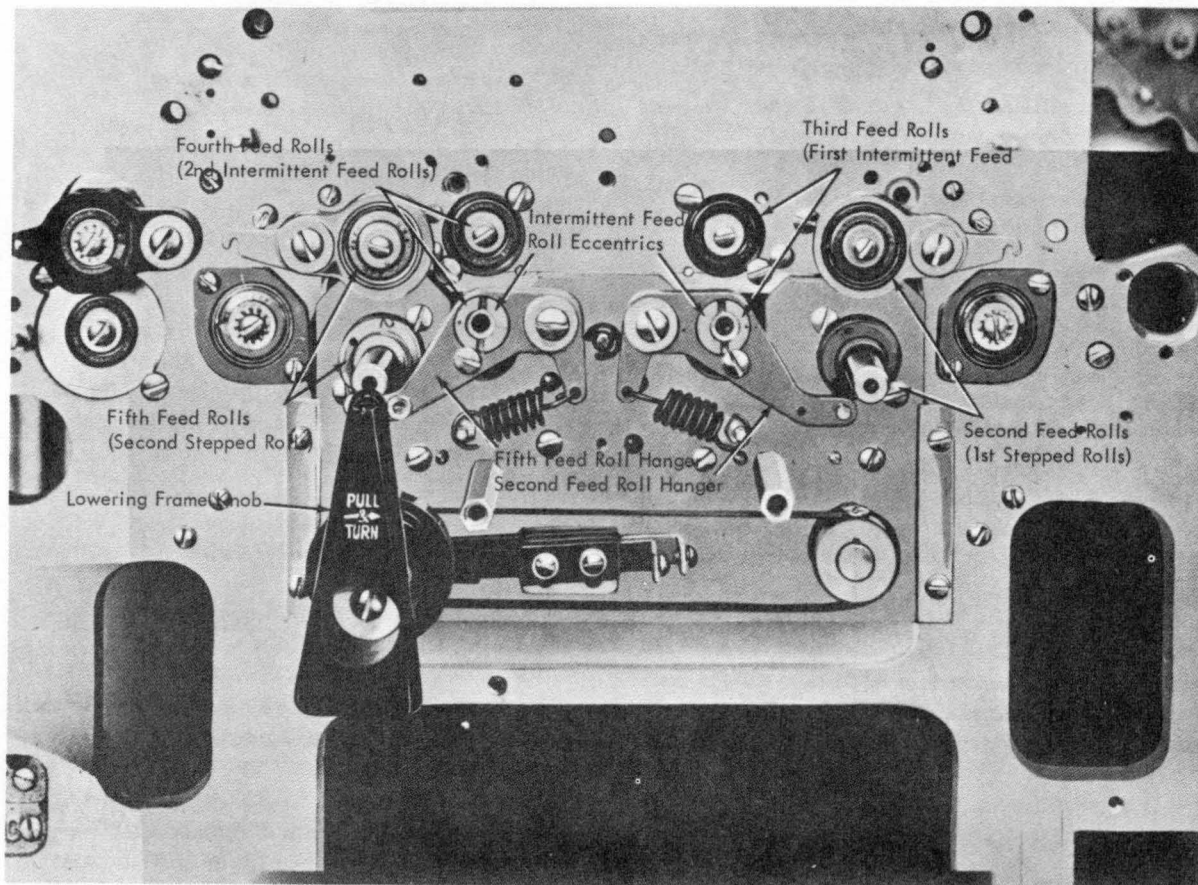

Figure 4-24. Intermittent Feed Roll Adjustments
5. Adjust the eccentrics at each end of the first intermittent feed roll shaft so that each card experiences light drag. Keep the high side of the eccentrics (indicated by the punch marks on the eccentrics) facing the punch marks on the intermittent feed roll opening arms (Figure 4-24).
5. Adjust the eccentrics at each end of the second intermittent feed roll shaft so that each card experiences light drag. Keep the high side of the eccentrics (indicated by the punch marks on the eccentrics) facing the punch marks on the intermittent feed roll opening arms. (Figure 4-24).